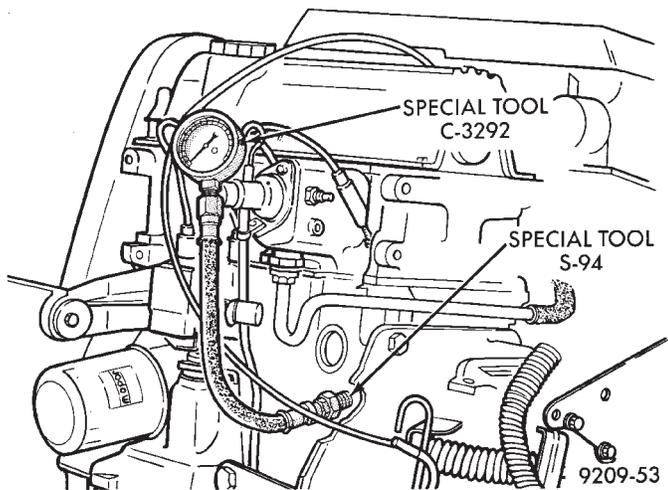

Fig. 15 Checking Oil Pump Pressure—Typical
(1) Remove pressure sending unit and install Special tool S-94 with gauge assembly C-3292 (Fig. 15).
(2) Warm engine at high idle until thermostat opens.